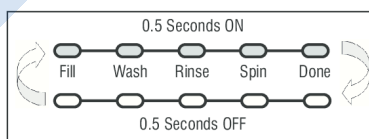

Figure 2 - Status LEDs flashing ON and OFF
- Turn cycle selector knob until the status LEDs flash ON and OFF (see figure 2, page 2).